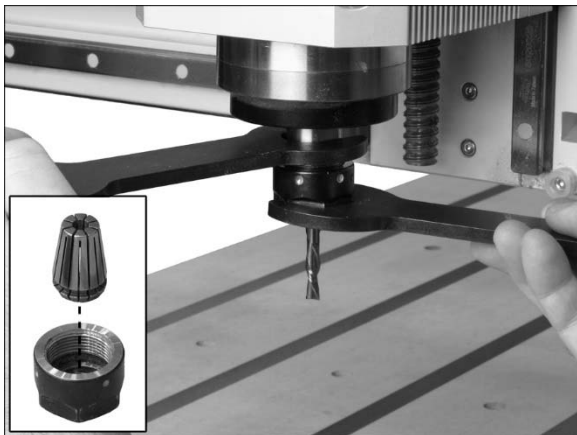

Figure 9-3
3. Make sure provided collet is clean, and insert it into spindle nut (Figure 9-3). Press until it snaps into position.